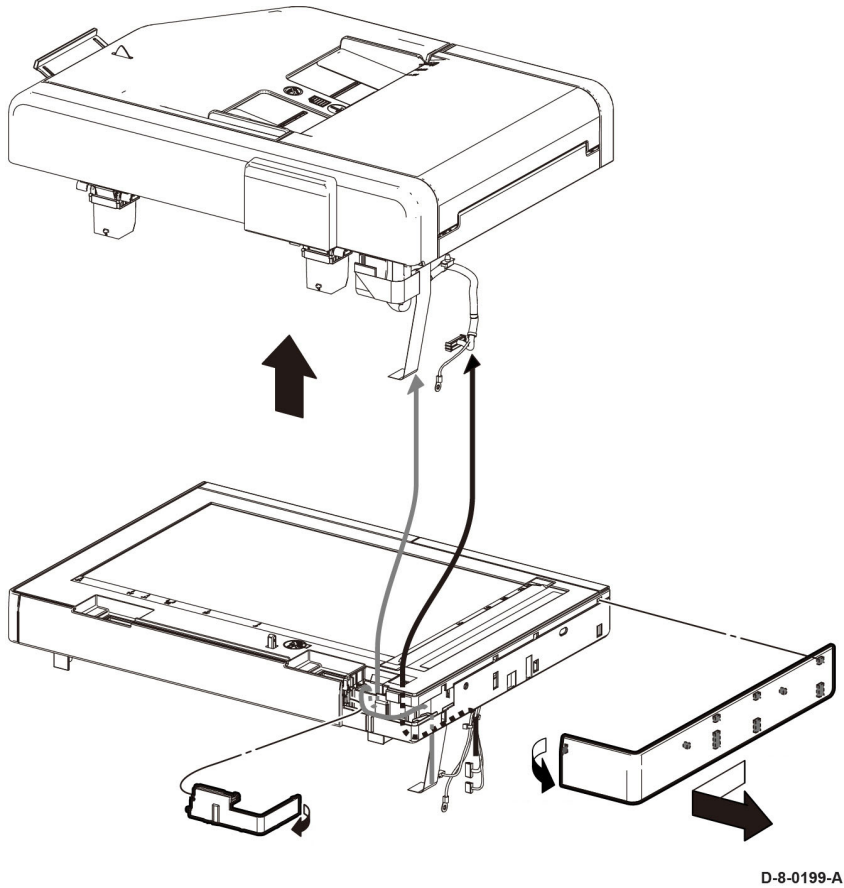

Figure 2 Separate the DADF Assembly from the IIT
2. Refer to Figure 2, release the hook and remove the FFC Cover from the IIT Assembly.
3. Refer to Figure 2, remove the DADF harness out of its harness guide and up through the IIT Assembly.
4. Refer to Figure 2, lift the DADF assembly straight up from the IIT assembly in the direction of the arrow.